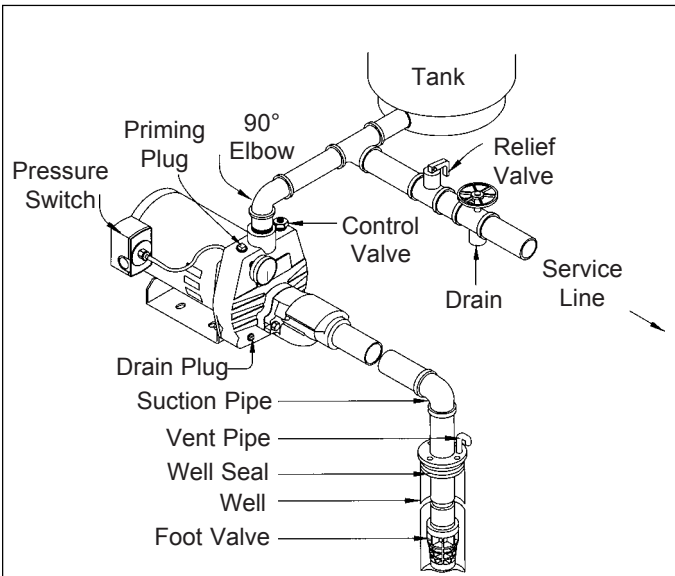

Fig. 4a SHALLOW WELL (WITH FOOT VALVE)
- d) **Service Line:** The service line should be connected as shown in Fig. 4a, b, c or d. The size of the service line required is governed entirely by the amount of water needed and the length of the pipe. The pipe selected should be large enough so that the